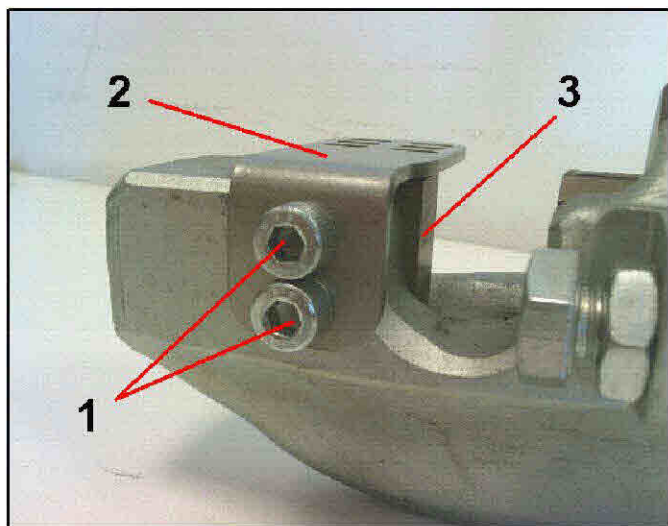

Fig. 5A
1. Loosen the lock screws (ref. 1 fig. 5A);
2. Remove the guard (ref. 2 cm fig. 5A);
3. Replace the fixed tool (ref. 3 in fig. 5A);